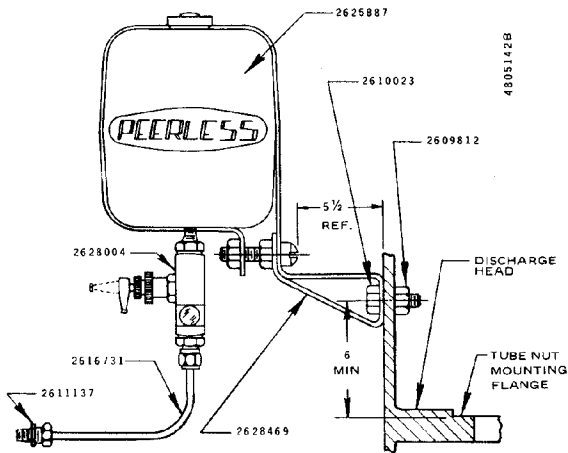
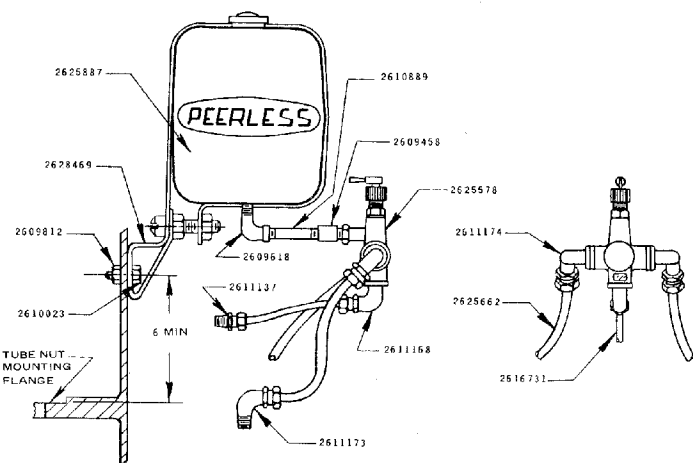
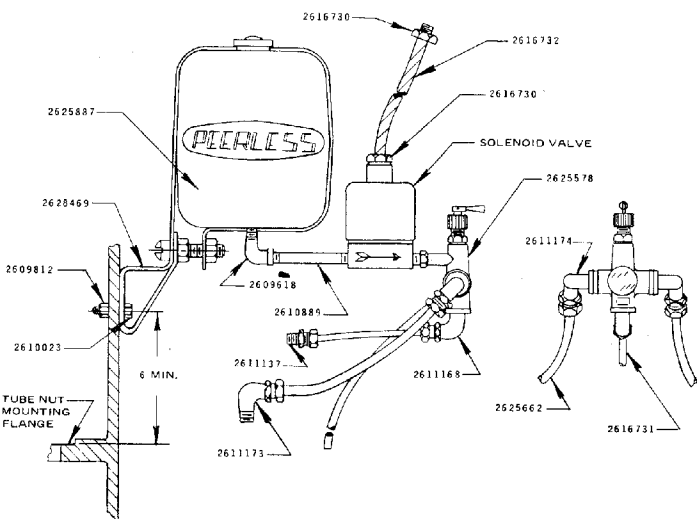

Fig. 14-1. Manual Oiler
Fig. 14-3. Ambient Temperature Compensated Oilier - Manual.
Fig. 14-4. Ambient Temperature Compensated Oilier - Automatic. Head Mount Shown.
C. The oil system from the reservoir to the pump may be any one of the four types shown in Fig. 14-1 through Fig. 14-4. Connect the solenoid valve (if used) and the sight feed oil valve (either plain or temperature-compensated) to the reservoir as shown in the appropriate figure. Connect a short length of tubing from the bottom of the sight feed oil valve to the $\frac{1}{4}$ NPT hole in the side of the tube nut cap.
E. The ambient temperature compensated sight feed oil valve is maintained at a nearly constant temperature by water from the pump. Using a short length of tubing (Part No. 2625662, Fig. 14-3 and Fig. 14-4), connect either of the side outlets of the oil valve to the $\frac{1}{4}$ NPT pressure tap in the discharge head interior wall, adjacent to the tube nut cap. Connect a second short length of tubing to the other side outlet of the oil valve. This tube may be used to conduct the fluid back to the well through a hole in the discharge head base, or to any convenient drain.